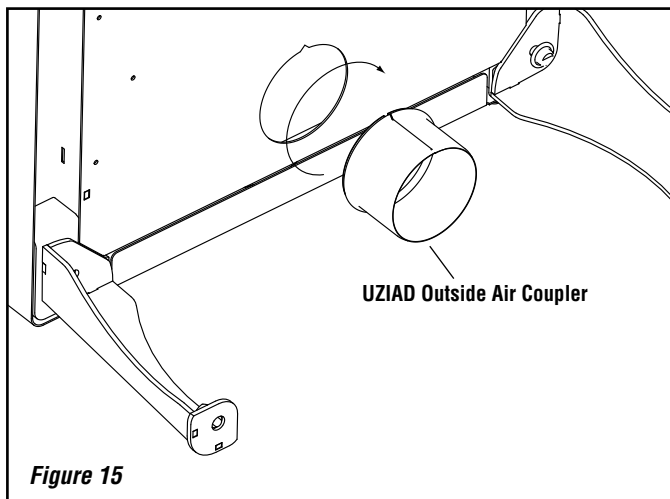

Figure 15
Through the Wall Outside Air Kit Installation (refer to Figures 15, 16 and 17)
- Install the coupler onto the existing collar on stove (see **Figure 15**).